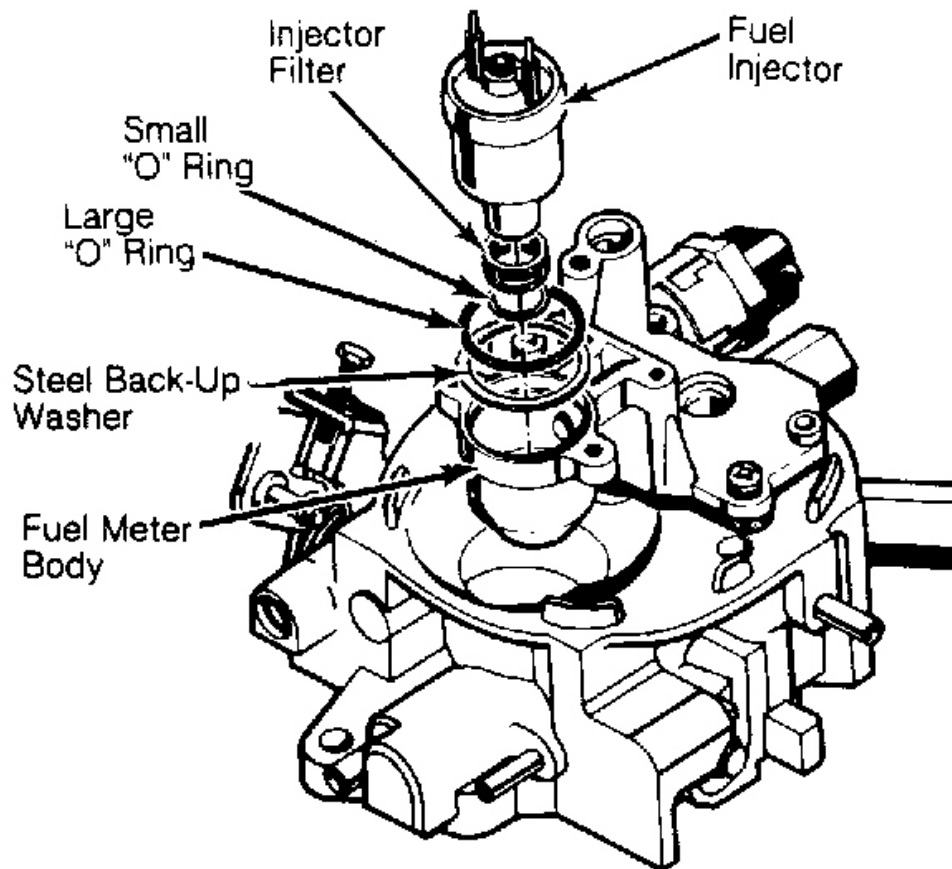

Fig. 8: Installing Fuel Injector Lubricate "O" rings with automatic transmission fluid.
3. Install large "O" ring directly above back-up washer. Press "O" ring down in cavity recess until flush with top of fuel meter body casting surface. See **Fig. 8**.